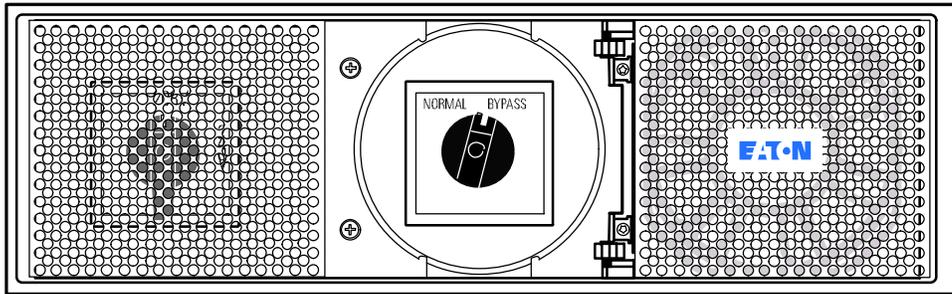

Figure 34. Setting the Bypass Switch to Bypass
3. Turn the bypass switch on the 9PX PPDM to the BYPASS position (see Figure 34). The 9PX PPDM is now powering your equipment from utility power.